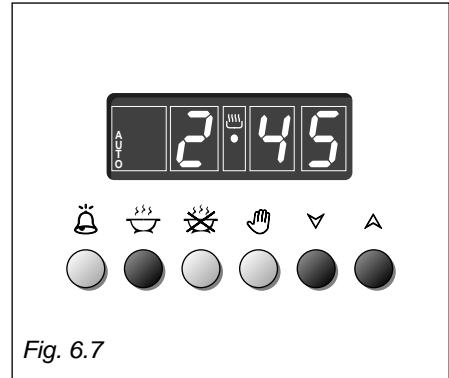

Fig. 6.7
1. Set the length of the cooking time by pushing the  button and the  button to advance, or  to go backwards (Fig. 6.7).